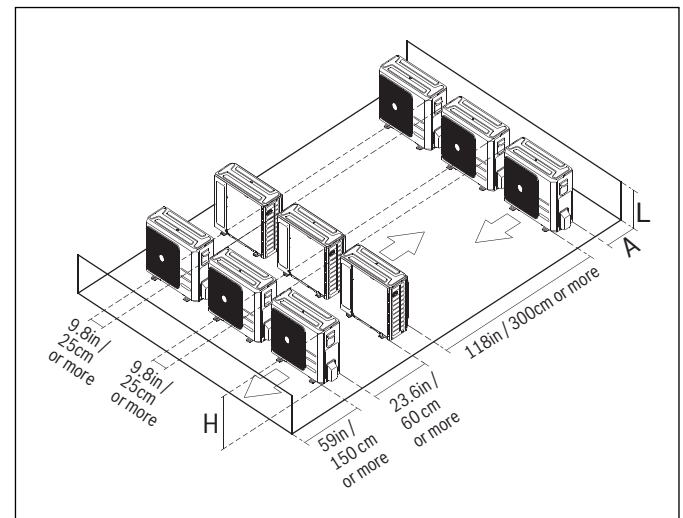

Figure 8
- ▶ Make sure to meet minimum spatial requirement (Figure 8 & 9) to ensure there is enough room for installation and maintenance.